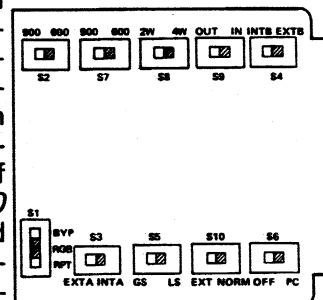

figure 6. Option switch locations on 7002 and 7002A
3.06 The 7002(A) requires no alignment. Before the module is placed into service, however, ten option switches must be set. Locations of these switches on the module's printed circuit board are shown in figure 6. Table 4 provides a brief explanation of the function and settings of each option switch. Also included in table 4 is a convenient option checklist. This checklist can be filled out (by checking the appropriate box for each switch) either prior to installation to allow prescription optioning of the module or as the module is being optioned to provide a record for future reference. Detailed instructions for optioning the 7002(A) are provided in paragraphs 3.06 through 3.14.